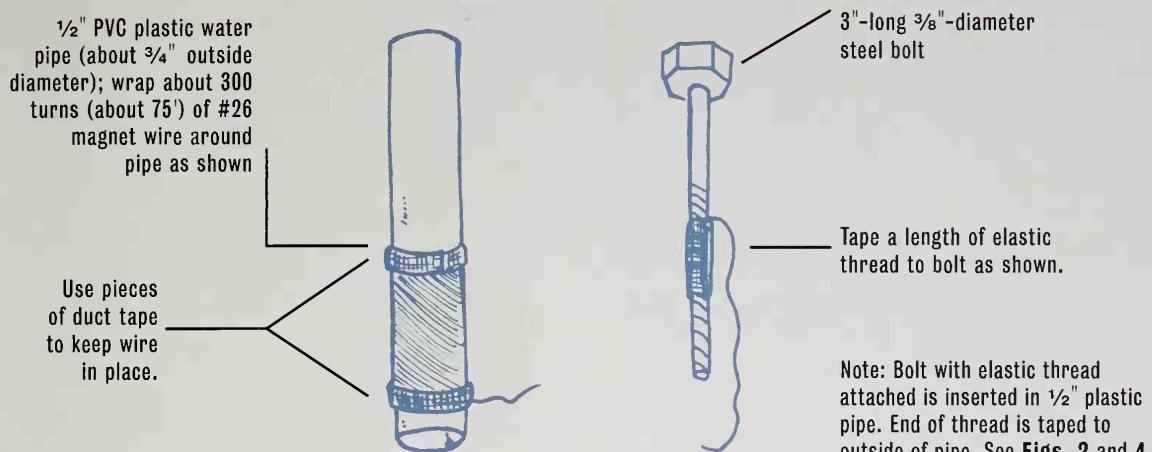
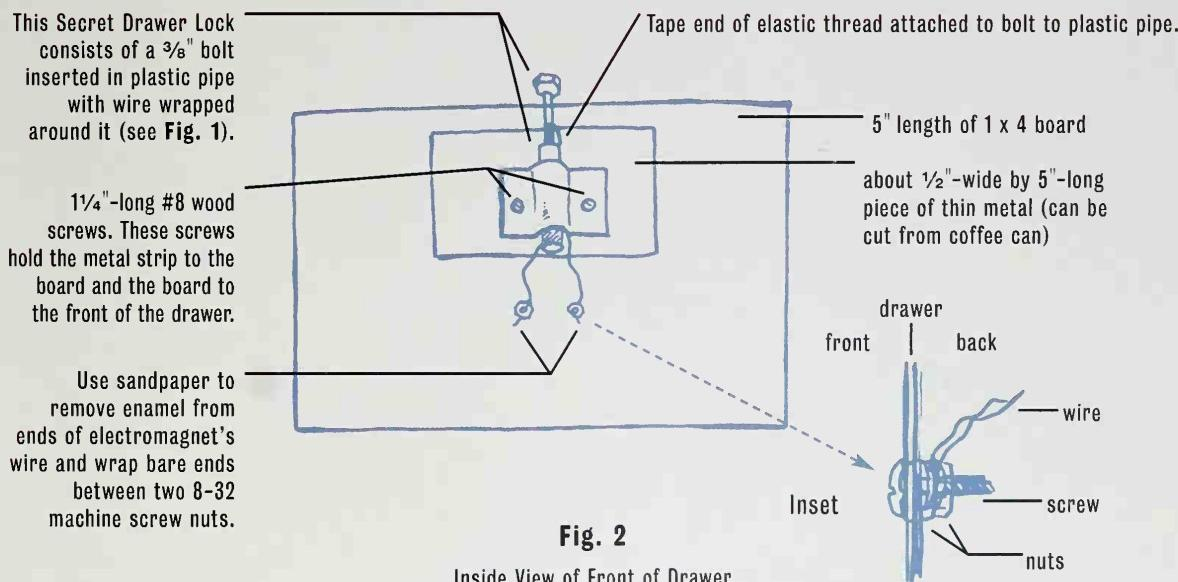

Fig. 1
Fig. 2
2. Wind about three hundred turns of #26 magnet wire over the $\frac{1}{2}$ " plastic water pipe as shown in Fig. 1. Use duct tape to keep the wire in place. Leave about 8" of wire free at both ends.
4. Also as shown in Fig. 1, tape a length of elastic thread to the bolt. Tape the other end of this thread to the outside of the pipe, as shown in Fig. 2.
5. Drill two $\frac{3}{32}$ " holes in a 5" by $1\frac{1}{2}$ " piece of thin metal, as shown in Fig. 2.
8. As shown in Figs. 2 and 4, use two $1\frac{1}{4}$ "-long #8 wood screws to attach the electromagnet latch to the inside of the front of the drawer. Tighten the screws so that the thin metal holds the secret latch firmly to the drawer.
10. Insert two $1\frac{1}{2}$ "-long 8-32 machine screws in these holes. As shown in the inset in Fig. 2, firmly screw on one 8-32 nut to hold each screw and then loosely screw on another nut. Wrap the ends of the wires between the two nuts. Tighten the outside nut.